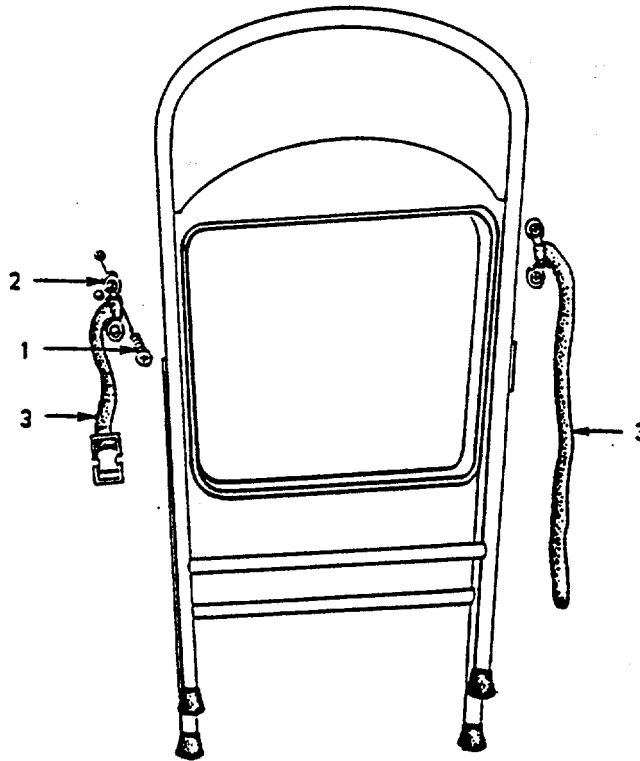

Figure 4-66. Folding Chair Holddown Assembly
- a. Inspect. (See Figure 4-66.)
- (1) Inspect strap assembly webbing on roadside partition opposite camera for wear, frayed sewing, and decayed fabric.
- (2) Inspect fastener loops (2) for secure mounting to wall.
- b. Replace. (See Figure 4-66.)
- (1) Remove screws (1) and fastener loops (2) from shelter wall.
- (2) Remove strap assembly (3) from fastener loops (2).
- (3) Install replacement strap assembly (3) on fastener loops (2).
- (4) Install and secure fastener loops (2) to shelter wall with screws (1).
b. Replace. - Continued (See Figure 4-66.)